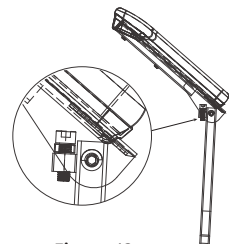

Figure 13
3. Adjusting the screws upward raises the armrest; adjusting the screws downward lowers the armrest(see figure 13).